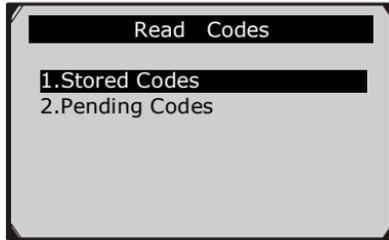

Figure 6-4
- 2) Use the **UP/DOWN** scroll button to select **Stored Codes** or **Pending Codes** from the **Read Codes** menu and press the **OK** button. (Figure 6-4)